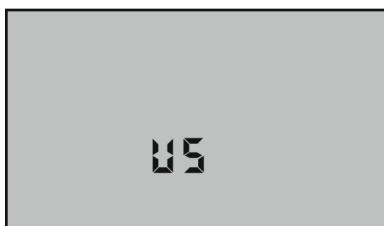

Figure 13
3. Press $\frac{\text{CAL}}{\text{MCLR}}$ to change. Display will now indicate other format (see Figures 13 & 14, pg.41).